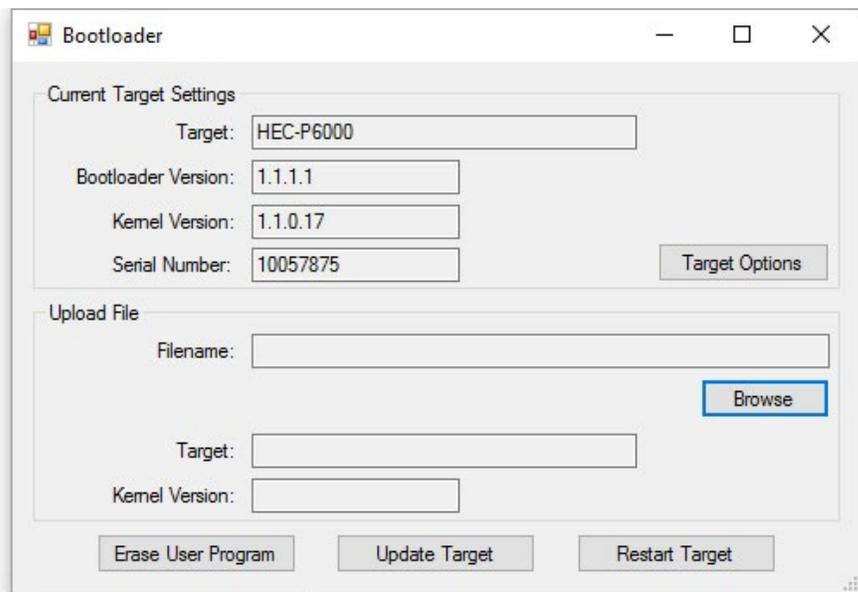

Figure 1.4 - Updating the Kernel / Target
9. Click the **UPDATE TARGET** button to install the kernel. Refer to Figure 1.4.